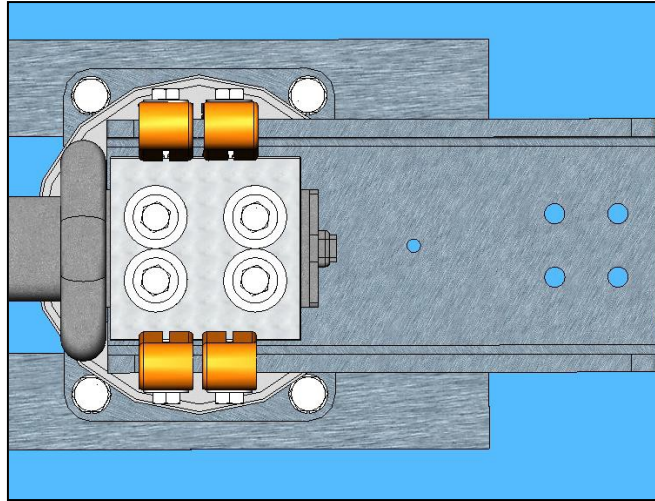
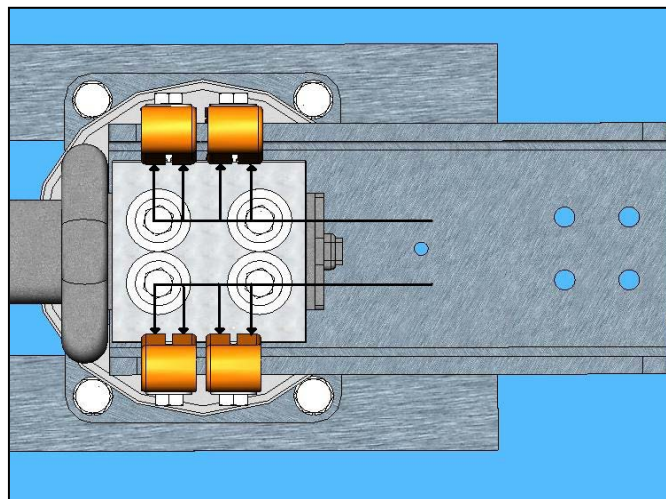

Figure 4: Contact Blade Centered Among Contact Fingers
Figure 5: Evenly Distributed Contact at All Points, on Both Sides
- 1.6.4. Mount the jaw contact assembly to the insulator and, for the moment, leave the bolts loose. Close the switch blade into the contacts, checking for alignment as shown in **Figure 4** and **Figure 5**. Usually bolt hole tolerances will be sufficient to align the contacts properly. However, the jackscrews that support the jaw insulator stack can also be used to tilt the insulator as required
- 2.1.1. The jaw contact leaves (fingers) must be centered on the silver of the blade tip as shown in **Figure 4**. If necessary, use the jack screws that support the jaw insulator to tilt the insulator fore or aft to align these parts.
- 2.1.2. All contact leaves (fingers) must be in contact with the silver of the blade tip as shown in **Figure 5**. If necessary, shift the jaw against the bolt hole tolerances as required to achieve full contact distribution along the length of the blade tip.